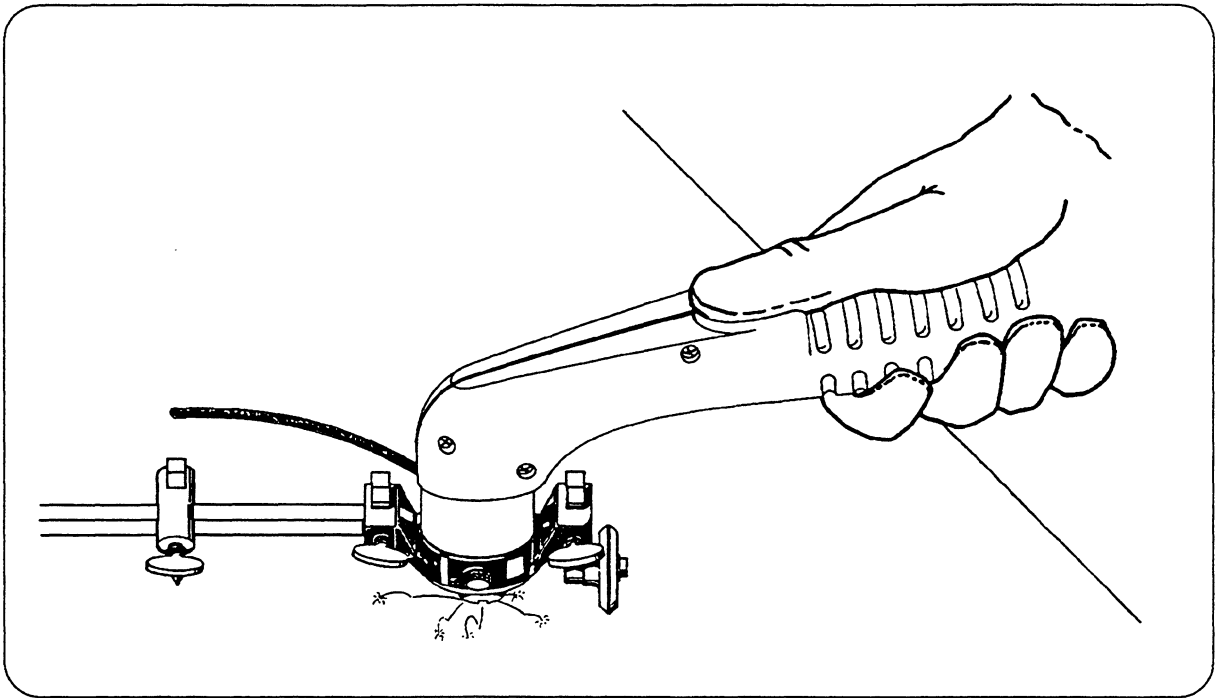

Figure 4-5 Cutting a Circle
- To cut circles, use a template or a radius cutter attachment (Fig. 4-5).